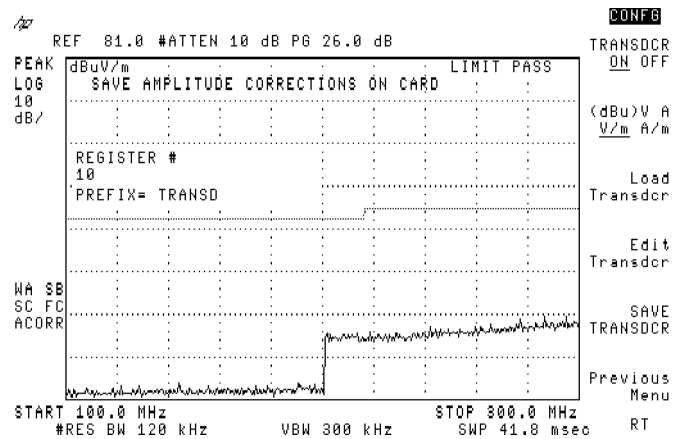

Figure 3-89. Save Transducer Screen
4. Press **Save Transdcr**. See Figure 3-89.